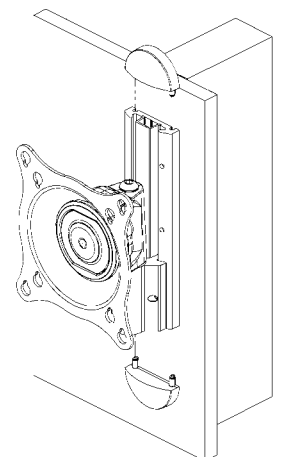

Figure 4. Install End Caps
- B. Install the end caps on the wall plate (see Figure 4).
- J. Install the end caps on the wall plate (see Figure 4).